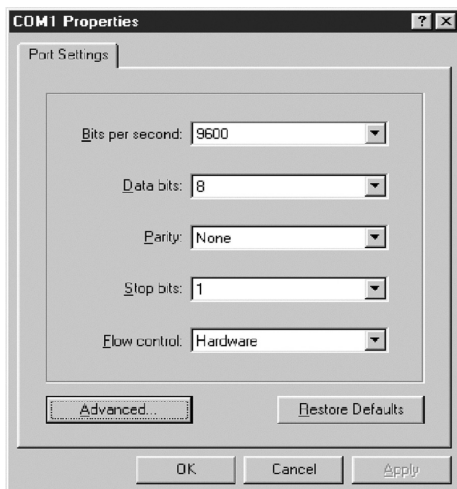

Figure 2-13 COM Port Properties Dialog
1. In the COM1 Properties dialog (Figure 2-13) enter the following: